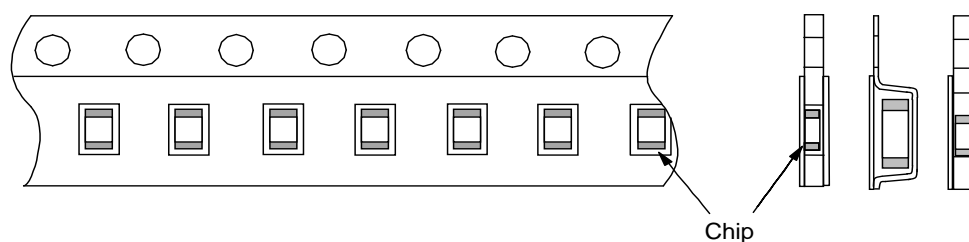

Fig.2 Dimensions of Reel
| 18                 | Board Flex                                               | Appearance                                                                                                                  | No marking defects | <p>Solder the capacitor on the test board (glass epoxy board) shown in Fig1. Then apply a force in the direction shown in Fig 2 for 60s. The soldering should be done by the reflow method and should be conducted with care so that the soldering is uniform and free of defects such as heat shock.</p> <table border="1"><thead><tr><th>Type</th><th>a</th><th>b</th><th>c</th></tr></thead><tbody><tr><td>GCD18</td><td>0.6</td><td>2.2</td><td>0.9</td></tr><tr><td>GCD21</td><td>0.8</td><td>3.0</td><td>1.3</td></tr></tbody></table> <div><p>Fig. 1</p><p>t : 1.6mm</p></div> <div><p>Fig. 2</p><p>Pressurizing speed:1.0mm/sPressurize</p><p>Flexure : ≤2(High Dielectric Type)</p></div> | Type | a    | b | c | GCD18 | 0.6 | 2.2 | 0.9 | GCD21 | 0.8 | 3.0 | 1.3  |
1.11 Reel is made by resin and appearance and dimension is shown in Fig 2.